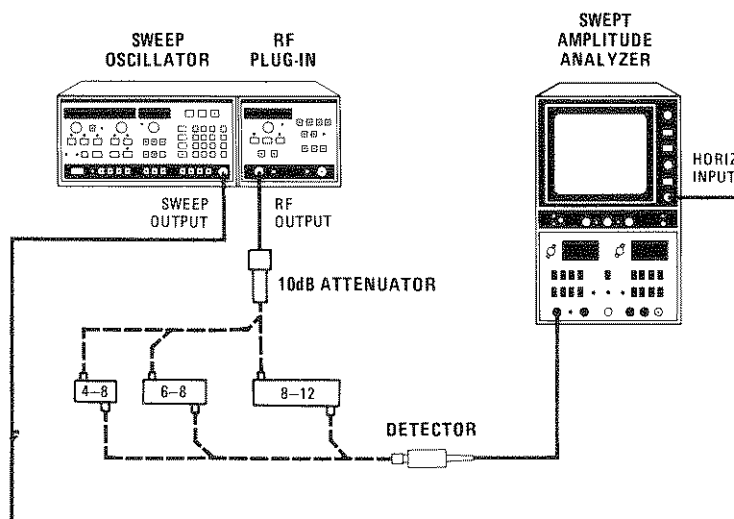

Figure 5-21. Band 1 Harmonics Test Setup
1. Connect equipment as shown in Figure 5-21, with the 4 to 8 GHz band pass filter in the RF path. Select 8350A \square MOD and RF BLANK. Sweep from 2 to 8.4 GHz at a leveled power of 13 dBm.